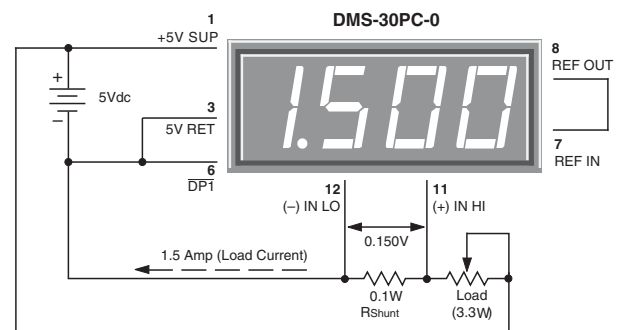

Figure 9. Basic DC Ammeter Circuit
- 7. Digital Ammeter:** Digital ammeters are finding ever-increasing usage because analog-style ammeters (moving-vane types) now cost roughly the same as their digital counterparts. Additionally, analog ammeters are not nearly as rugged as modern digital panel voltmeters. Figure 9 illustrates a typical ammeter application. The circuit uses a ± 200 mV input meter — the preferred range for most ammeters — to measure the voltage developed across a 0.1Ω current shunt. The circuit shown represents a basic ammeter connection diagram. A detailed application note describing digital dc ammeters is included in Murata Power Solutions' new Digital Panel Meter Databook.